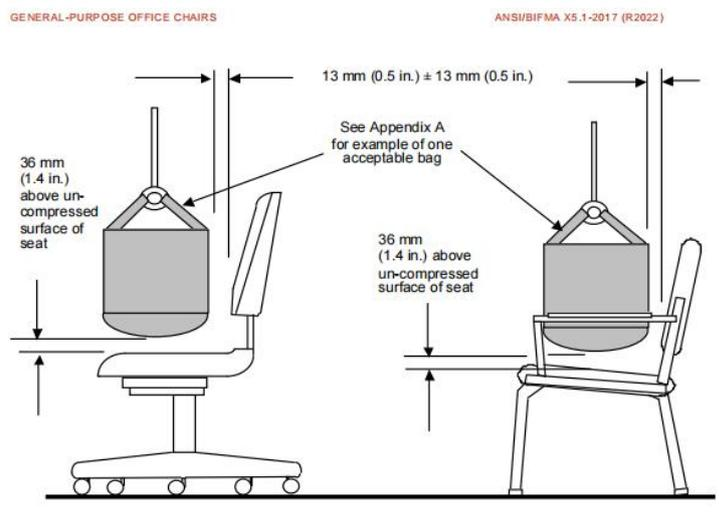

Figure 10a - Seating Durability Test - Cyclic
d) A 406 mm ± 13mm (16 in. ± 0.5 in.) diameter test bag containing metal media weighing 57 kg (125 lb.) shall be attached to a cycling device, permitting a free fall to the seat as shown in Figure 10a. The drop height and/or seat height shall be adjusted during the test if the drop height changes by more than 13 mm (0.5 in.). The cycling device shall be set at a rate between 10 and 30 cycles per minute.